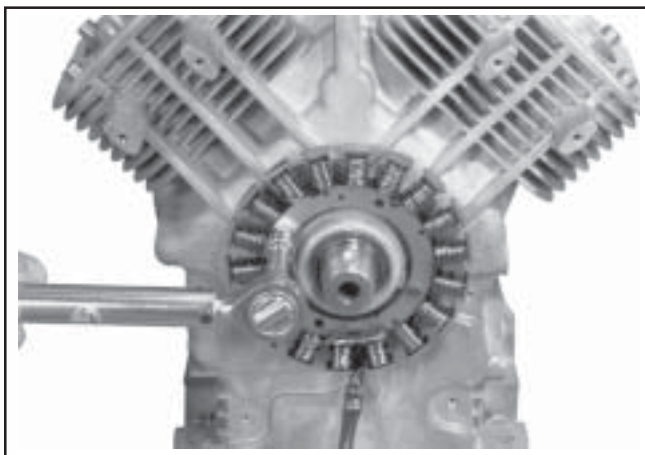

Figure 11-20. Torquing Stator Screws.
3. Install and torque the two hex flange screws to **6.2 N·m (55 in. lb.)**. See Figure 11-20.